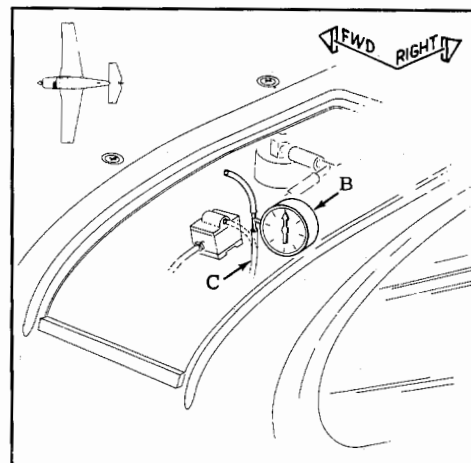

Figure 6-17. Cutoff Valve Test
5. To check cutoff valve operation on 1968 thru 1974 models, disconnect gray line (C), Figure 6-17, at pilot valve. Attach a T-fitting with a vacuum gage (B), to cutoff valve line.